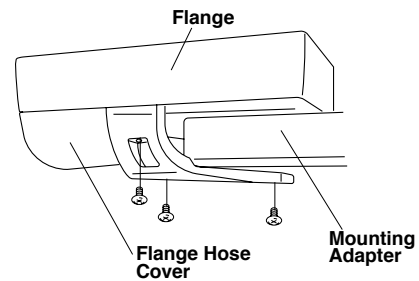

Fig.6-19 Fixing Flange Hose Cover
- D. Fix the flange hose cover with 3 x M5 truss screws. (Fig.6-19)